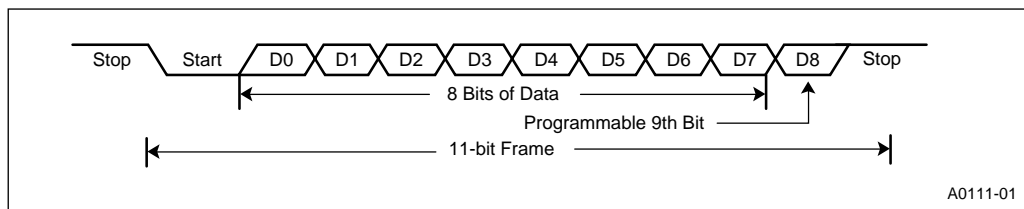

Figure 7-5. Serial Port Frames in Mode 2 and 3
Mode 2 is the asynchronous, ninth-bit recognition mode. This mode is commonly used with mode 3 for multiprocessor communications. Figure 7-5 shows the data frame used in this mode. It consists of a start bit (0), nine data bits (LSB first), and a stop bit (1). During transmissions, setting the TB8 bit in the `SPx_CON` register before writing to `SBUFx_TX` sets the ninth transmission bit. The hardware clears the TB8 bit after every transmission, so it must be set (if desired) before each write to `SBUFx_TX`. During receptions, the RI flag and `RLx` interrupt pending bit are set only if the TB8 bit is set. This provides an easy way to have selective reception on a data link. (See “Multiprocessor Communications” on page 7-9.) Parity cannot be enabled in this mode.